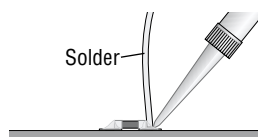

Figure 1.6.
- 5 Fully solder the tacked end of the component to its pad (Figure 1.6).